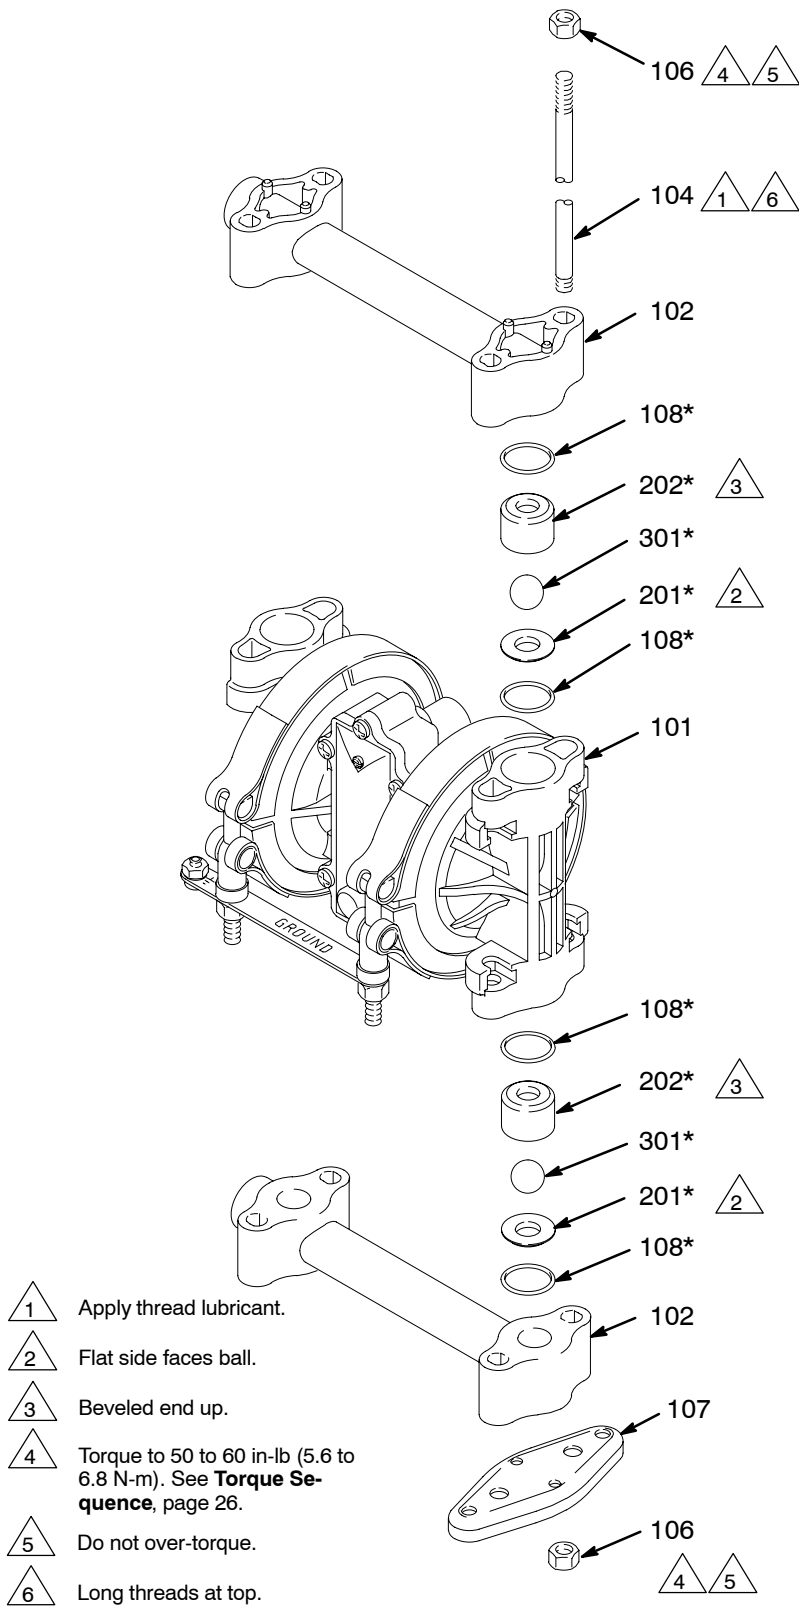

Fig. 10
2. Using a 1/2" socket wrench, remove the nuts (106) holding the top manifold (102) to the covers (101). Lift the manifold off the pump. See Fig. 10.
3. Remove the outer o-ring (108), ball guide (202), ball (301), seat (201), and inner o-ring (108) from each of the covers.
4. Turn the pump over. Pull the tie rods (104) out of the pump, leaving the four nuts (106) on the rods. Remove the feet (107) and lower manifold (102).
5. Remove the outer o-ring (108), seat (201), ball (301), ball guide (202), and inner o-ring (108) from each of the covers (101).
7. Reassemble the intake ball checks in the bottom of the pump, following all notes in Fig. 10. Be sure the ball checks are assembled **exactly** as shown.
8. Set the lower manifold (102) and feet (107) in place on the bottom of the pump.
9. Insert the long threads of each rod (104) through the feet and lower manifold. Push the rods up through the covers (101) until the nut (106) on the end of the rods bottoms on the foot. Make sure the rods are pushed all the way through. Turn the pump upright (the rods are a slight interference fit and will hold the pump parts securely in place).
10. Reassemble the outlet ball checks in the top of the pump, following all notes in Fig. 10. Be sure the ball checks are assembled **exactly** as shown. To avoid leaks, run your finger over the o-rings (108) to ensure that they are properly seated.
11. Install the top manifold (102) and four nuts (106). Torque to 50 to 60 in-lb (5.6 to 6.8 N-m). **Do not over-torque.** See **Torque Sequence**, page 26.